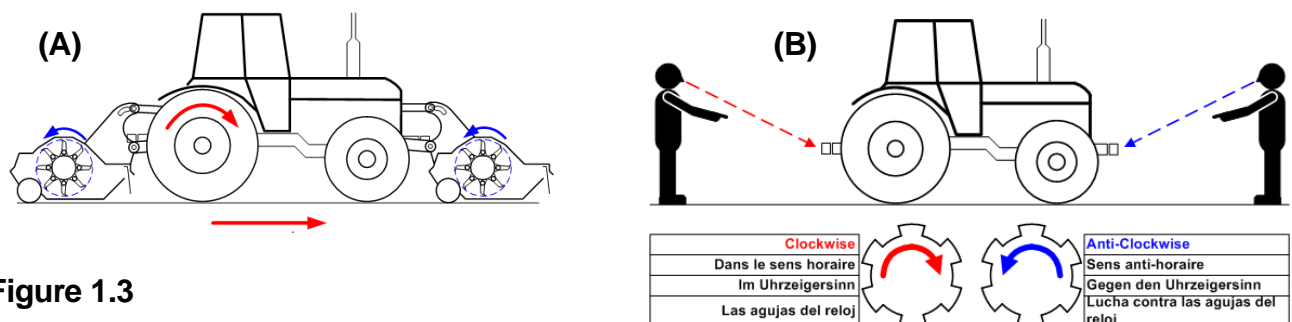

Figure 1.3
This will be defined as '**Reverse rotation**' (RR). See Figure 1.3(A).
This convention also extends to the definition of PTO drive rotation from the prime mover; see Figure 1.3(B).